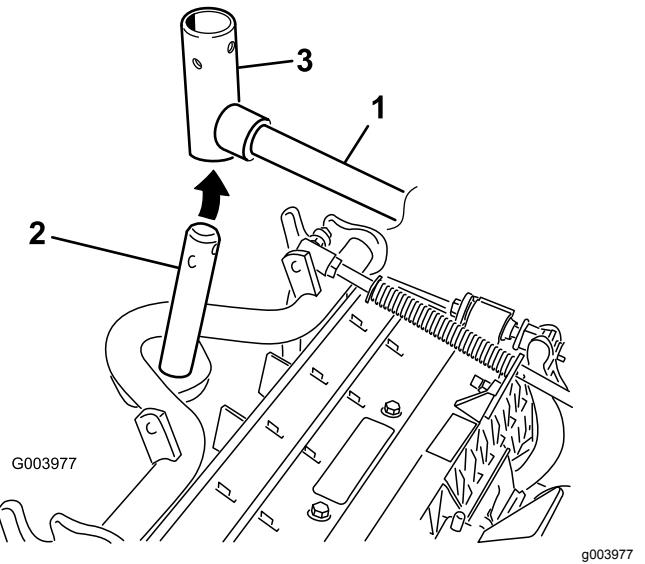

Figure 11
8. For the front cutting units, slide a cutting unit under the lift arm while inserting the carrier-frame shaft up into the lift-arm-pivot yoke (Figure 11).